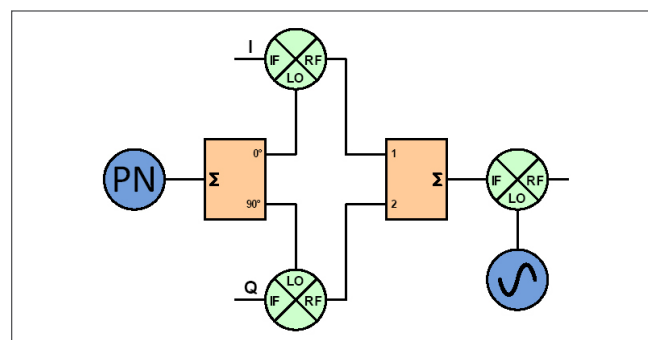
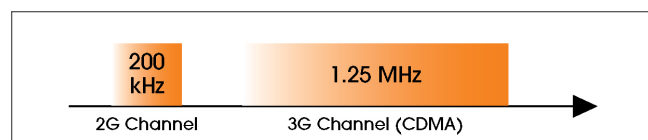
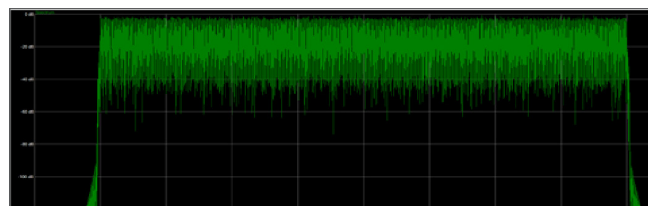

Figure 1: CDMA Transmitter Fundamentals Block Diagram
Figure 2: 2G vs. 3G Channel Bandwidth
Figure 3: Power/Frequency Spectrum of an Orthogonal Modulated Carrier
3G represented a significant advancement in digital communication. Military developments in spread spectrum technology spun off into the commercial space leading to Code Division Multiple Access (CDMA) and the higher data rate wideband CDMA (WCDMA) shown in Figure 1. As shown in Figure 2, this scheme used a Pseudorandom number waveform (PN) and quadrature modulation that required more bandwidth than the previous 2G channels. Additionally, the orthogonal modulation used has extensive peak power excursions, seen in Figure 3.